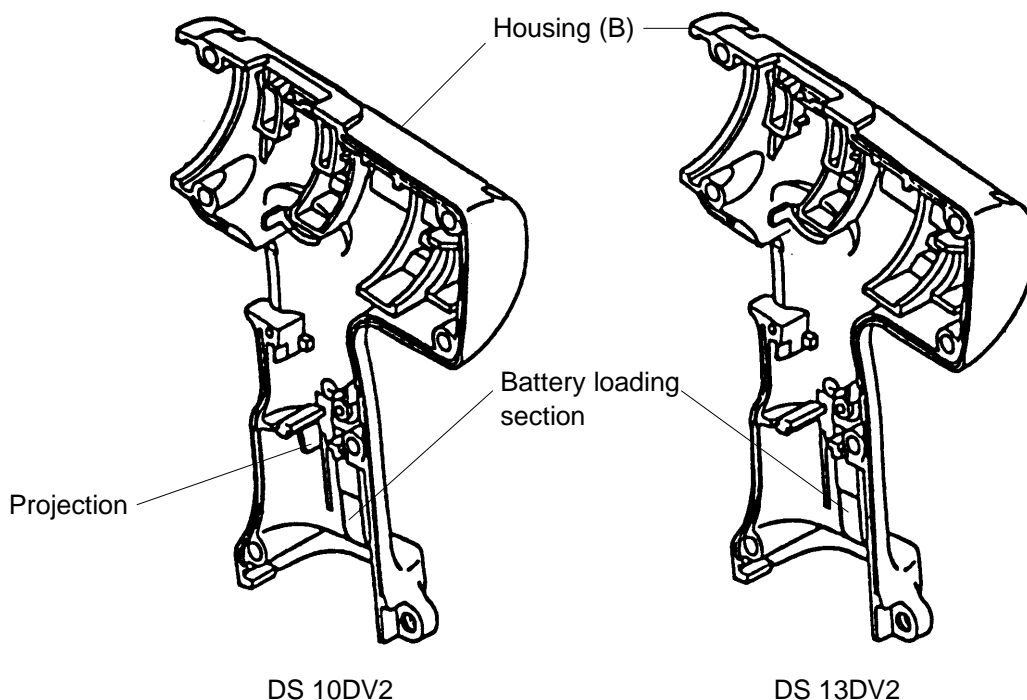

Fig. 19
- (b) While Housings (B) [32] of DS 13DV2 and DS 10DV2 are of the same external shape, there is a difference in that the battery loading section at the DS 10DV2 Housing (B) [32] is formed with a projection, with no such projection at the battery loading section of the DS 13DV2 Housing. Exercise care when carrying out assembly. (See Fig. 19)